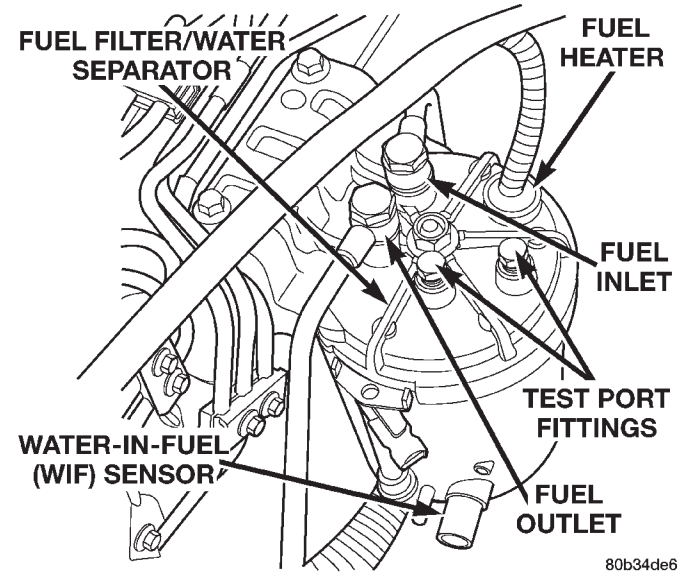

Fig. 23 Test Port at Fuel Inlet
(16) A 3-foot section of 1/4" I.D. clear tubing and a 1/8" NPT fitting are required for this test.
(17) Two test port fittings (plugs) are located at top of fuel filter housing (Fig. 23). Remove fitting at fuel **inlet** side of housing (towards rear of filter housing). Clean area around fitting before removal. In place of test port fitting (plug), install a 1/8" NPT fitting having a 1/4" O.D. nipple.
(18) Attach and clamp clear hose to fitting nipple.
(19) Place other end of hose into a clear container.
(20) The fuel transfer pump can be put into a 25 second run mode if key is turned to crank position and released back to run position without starting engine.
(21) Allow air to purge from empty hose before examining for air bubbles. Air bubbles should not be present.
(22) If bubbles are present, check for leaks in supply line to fuel tank.
(23) If supply line is not leaking, remove fuel tank module and remove filter at bottom of module (filter snaps to module). Check for leaks between supply nipple at top of module, and filter opening at bottom of module. Replace module if necessary.